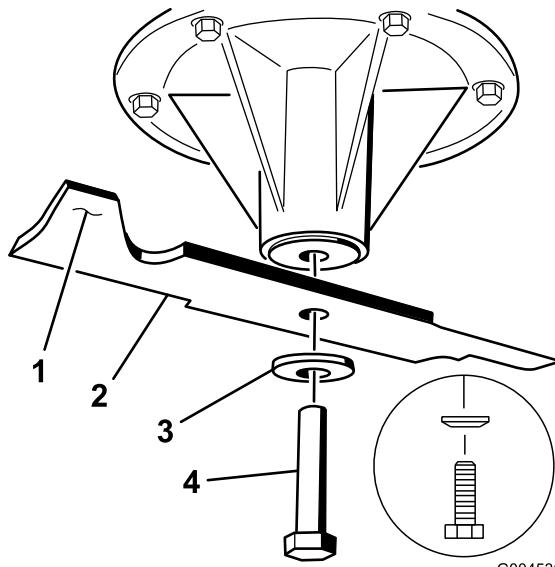

Figure 95
the sail area only (Figure 95). Repeat this procedure until the blade is balanced.
1. Install the blade onto the spindle shaft (Figure 95).
2. Install the spring disk and blade bolt. The spring disk cone must be installed toward the bolt head (Figure 95). Torque the blade bolt to 85-110 ft-lb (115-150 N·m).